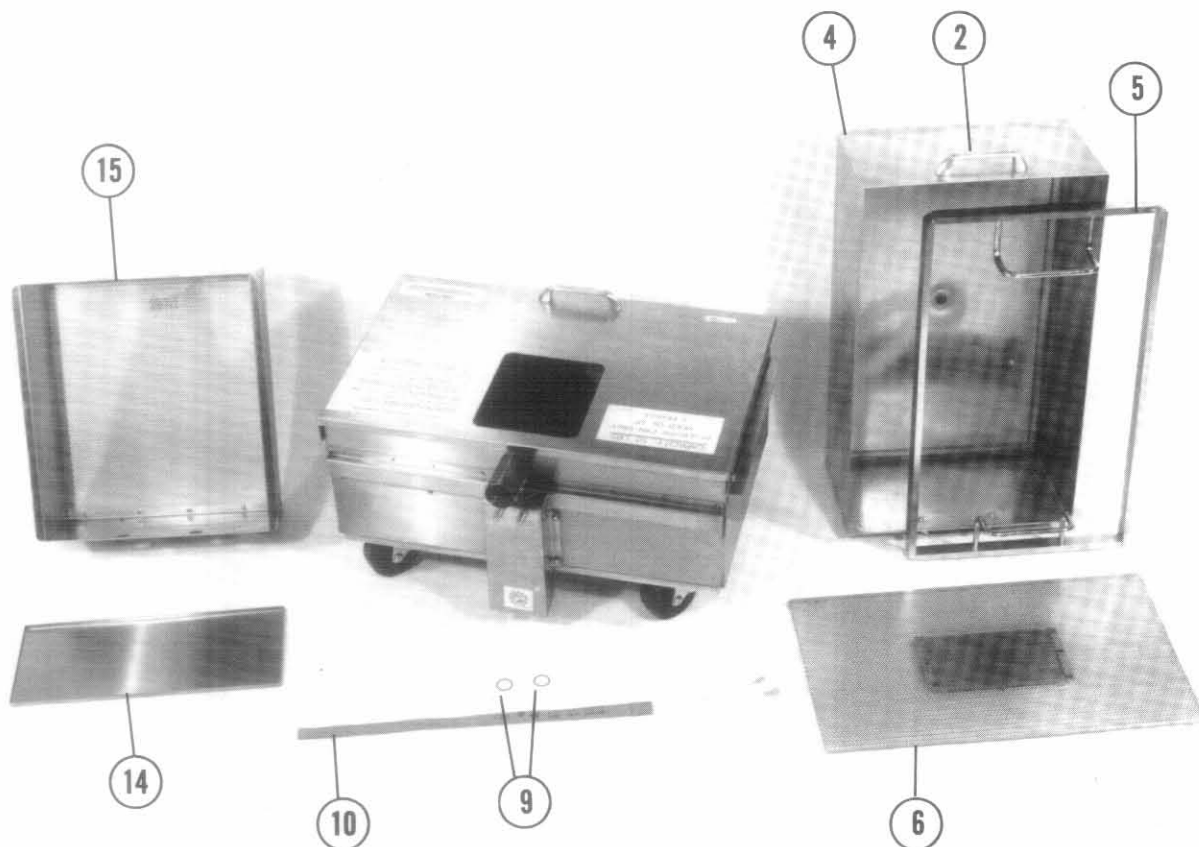

Figure 15-C
16. PARTS LIST (CONT'D)-FOOTPRINT II (Refer to Figure 15-C)